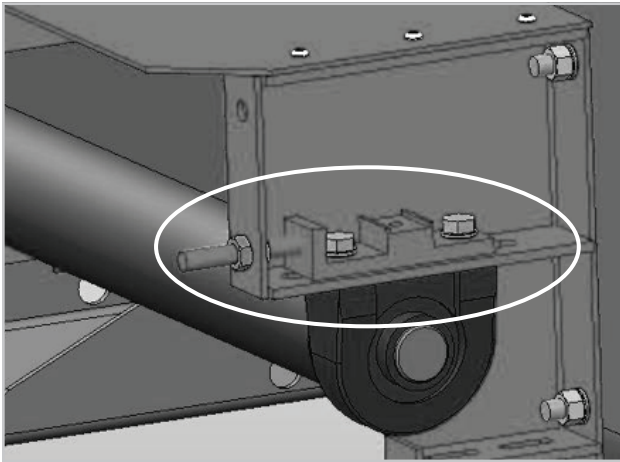

Figure 180
Step 2 – Square tail pulleys by making slight adjustments to the tension blocks (Figure 180).